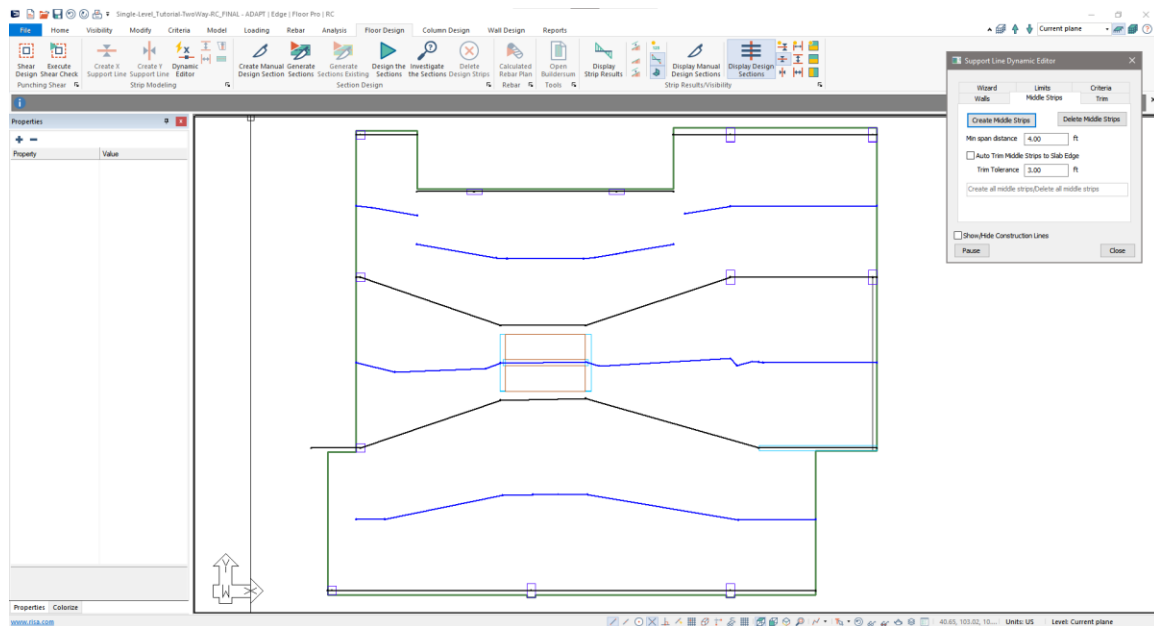

Figure 6-19
- Click on the *Create Middle Strips* button to create the middle strips support lines. The middle strip support lines initially will be shown in blue as seen in **FIGURE 6-19**.